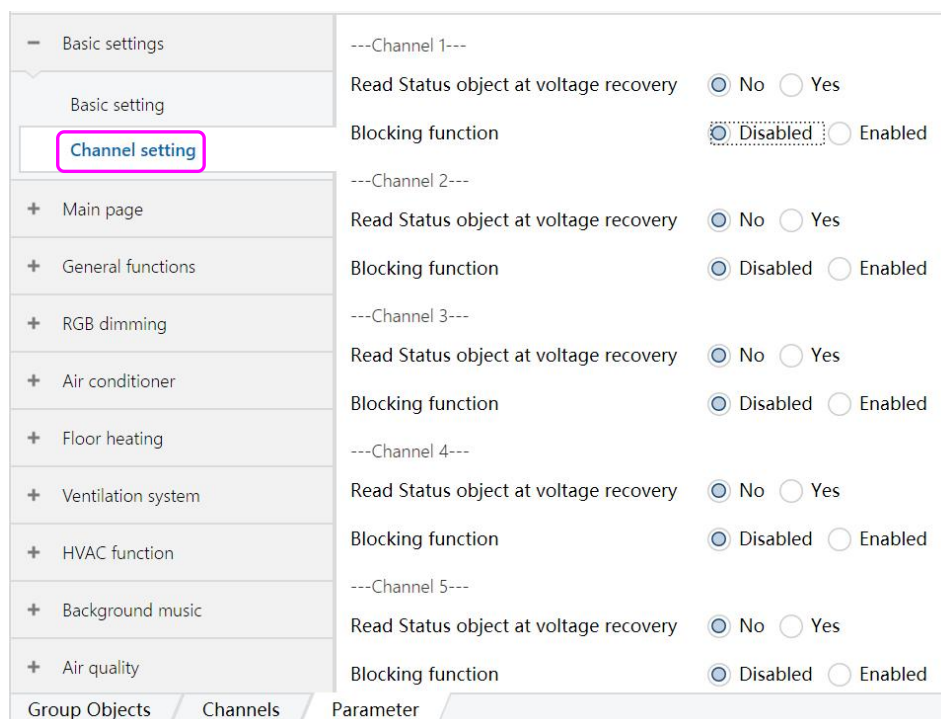

Figure 6.1.2
(2) Click on the option in the red box below to set the relevant parameters of Channel1~Channe16, as shown in Figure 6.1.2,